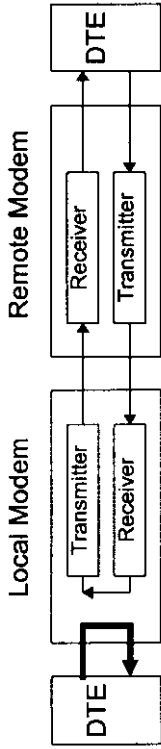

Figure 15. Local Digital Loopback Test
- **Local Digital Loopback (LDL)** - This test allows you the check the connection of the modem to the DTE (Figure 15). A successful LDL test means that the DTE and connections are working properly.